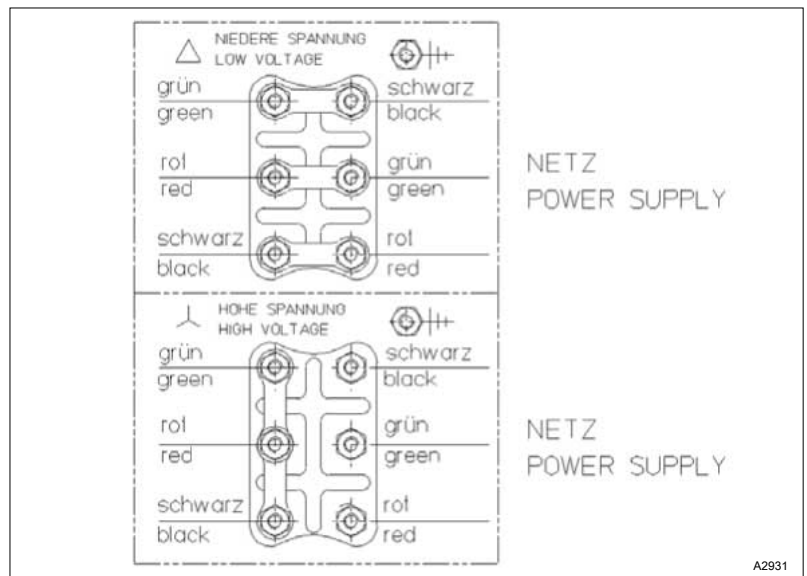

Fig. 7: Wire the 3-phase AC motors in accordance with the following diagram:
1. ➔ Connect the 3-phase AC motor, as shown on the diagram in Fig. 7.